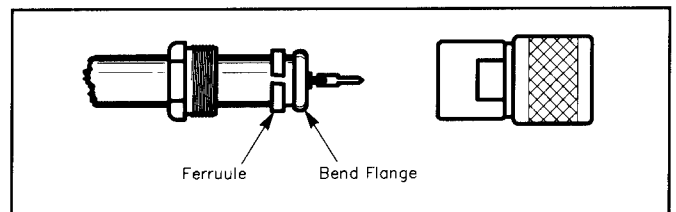

Fig. 1—Assembling a Type-N connector to $\frac{1}{2}$ -in. Hardline.
This procedure allows the use of ordinary Type-N connectors on half-inch aluminum Hardline with a solid copper center conductor. Refer to Fig 1.
4. Slide the ferrule onto the Hardline (see Fig 1). The ferrule is made from a 0.2-in. piece of $\frac{1}{2}$ -in. soft copper pipe, split to fit snugly around the aluminum outer conductor.